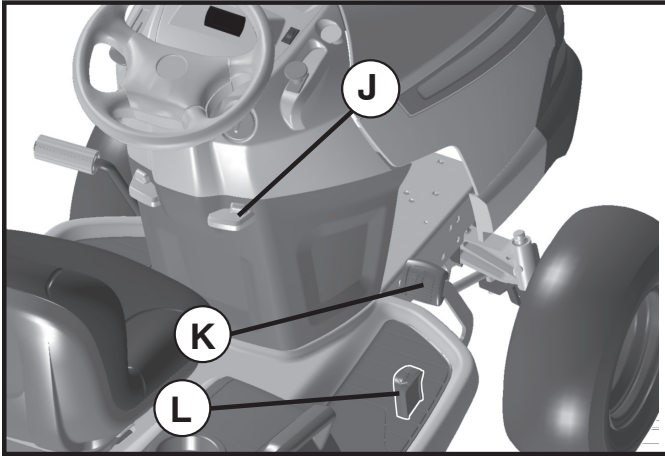

FIG. 7
TO MOVE FORWARD AND BACKWARD (See Fig. 7)
- Slowly depress forward (K) or reverse (L) drive pedal to begin movement. Ground speed increases the further down the pedal is depressed.
TO USE CRUISE CONTROL (J) (See Fig. 7)